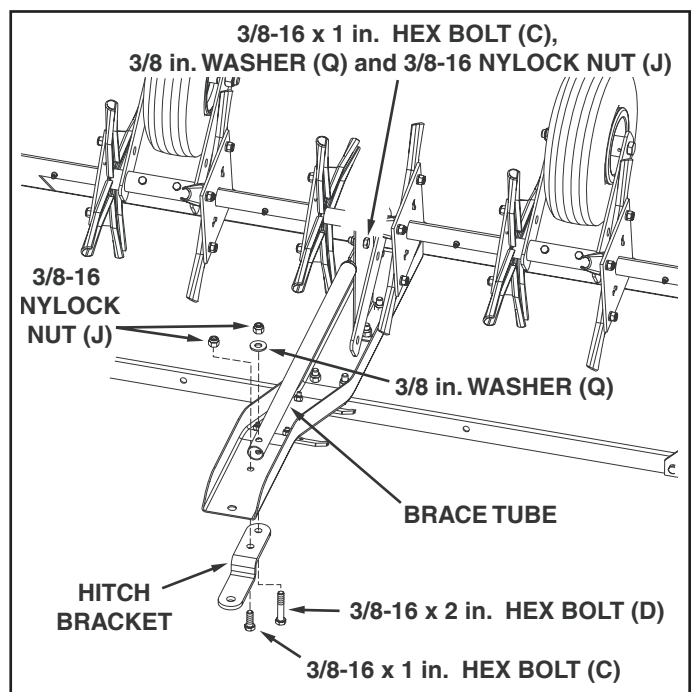

FIGURE 11
- Align the hitch bracket with the mounting holes in the tongue and tube brace, and loosely fasten with one 3/8-16 x 2 in. hex bolt, 3/8 in. flat washer and 3/8-16 nylock hex nut. See figure 11.
- Install one 3/8-16 x 1 in. hex bolt and one 3/8-16 nylock hex nut into the front hole of the hitch bracket to fasten the hitch bracket to the tongue. See figure 11.
- Tighten both tube brace hex bolts and the front hitch bracket bolt. See figure 11.